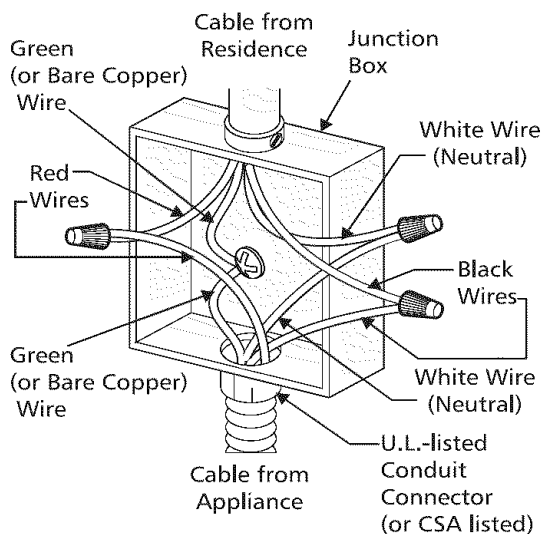

Figure 6 – 4-Wire Electrical System (Example: Junction Box)
Where local codes **DO NOT** permit connecting the appliance-grounding conductor to the neutral (white) wire, or if connecting to 4-wire electrical system (see Figure 6):
3. In the circuit breaker, fuse box or junction box: connect appliance and residence cable wires as shown in figure 6.